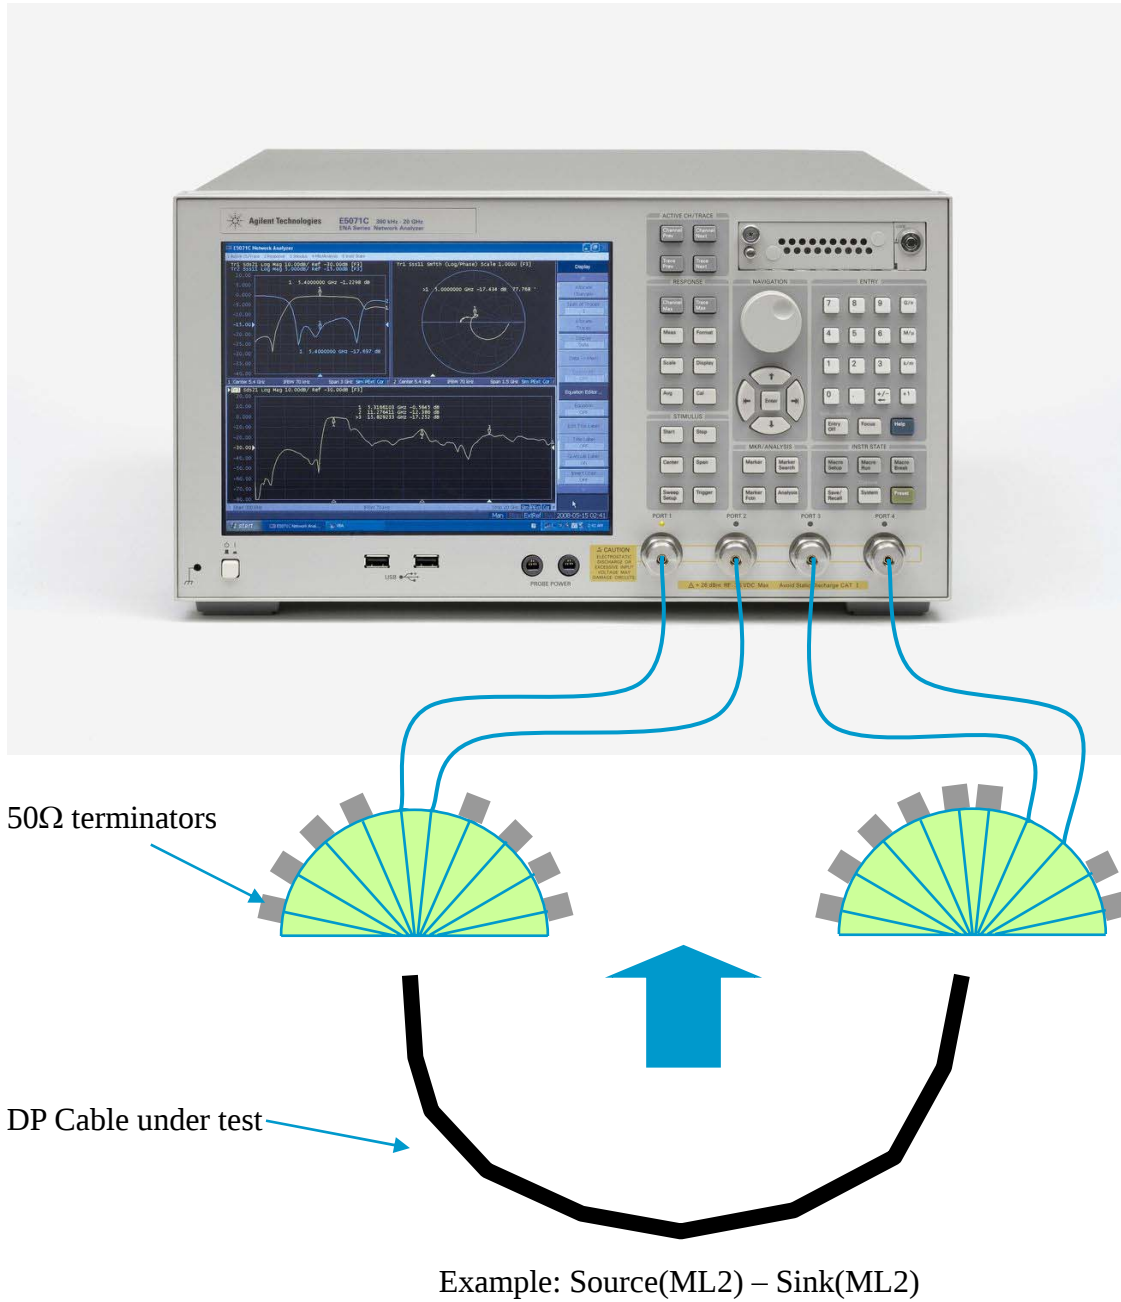

Figure 5.3.1 Connection Example for Return Loss measurement
1. Connect the test fixture to the test port cables according to the **Figure 5.3.1**. Unused terminals should be terminated.